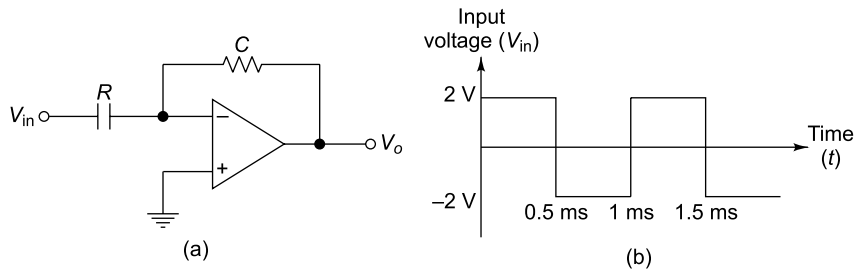

Fig. 5.49 (a) Circuit (b) Input voltage of Ex. 5.23
5.23 Figure 5.49(a) shows a differentiation circuit. When a square wave input voltage as shown in Fig. 5.49(b) is applied to the differentiation circuit, what will be the output voltage waveform?